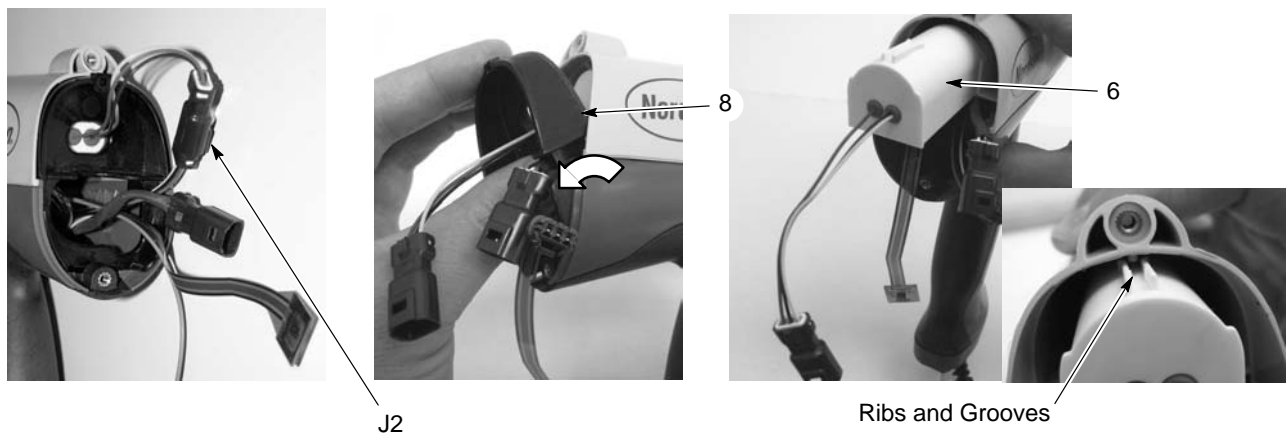

Figure 2 Removing the Bulkhead and Power Supply
2. See Figure 2. Insert a small screwdriver into the recess in the J2 gun cable/power supply connectors to release the catch and disconnect the connectors.
3. Pull on the top of the bulkhead (8) to remove it from the gun. Pull the gun cable and power supply connectors and leads out of the bulkhead.
4. Leave the power supply (6) installed in the gun body. If you remove it, make sure to mate up the gun body ribs with the grooves in the power supply when you re-install it.